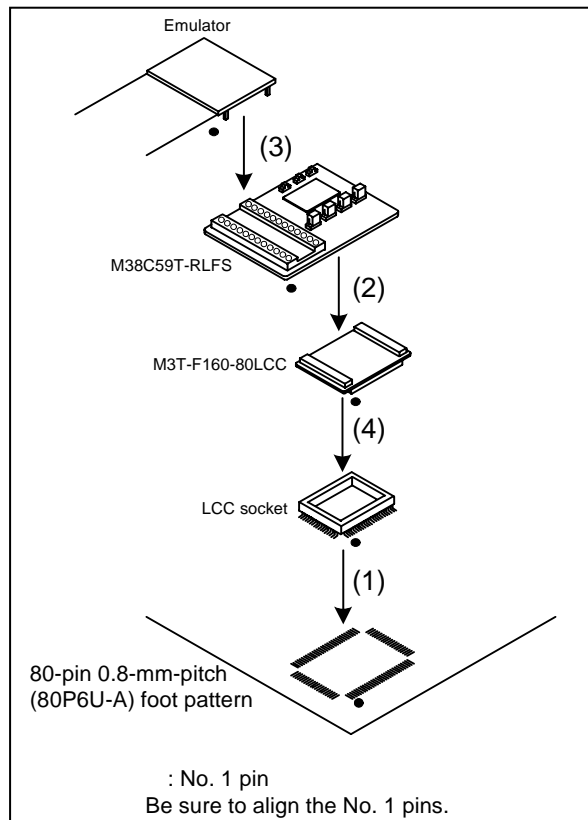

Figure 2 Connection procedure of the M38C59T-RLFS
4. Connection Procedure (See Figure 2)